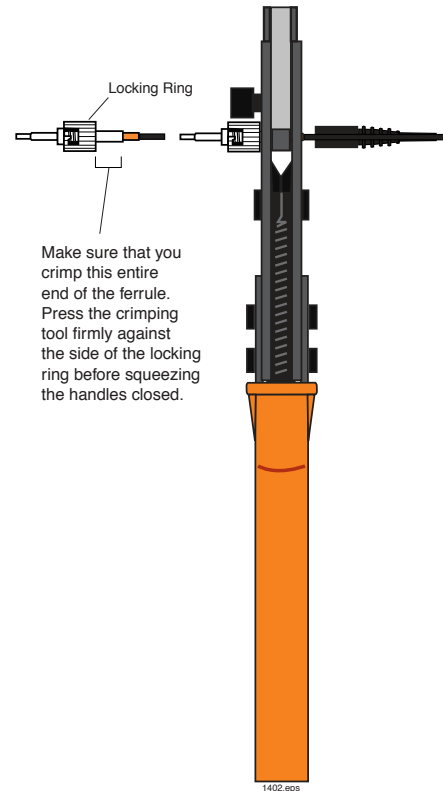

Figure 17. Position of the ST connector in crimper for proper crimp.
13. Place the large end of the ferrule in the 0.128 inch hex hole as shown in Figure 17 and slowly squeeze the handles of the crimp tool until the jaws just make contact with it. Do not apply any further pressure on the handles.